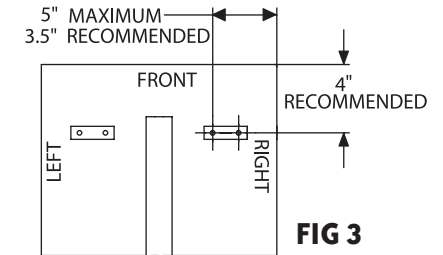

FIG 3
4. To use the suggested mounting location, see FIG 3. You may mount on the left or right.